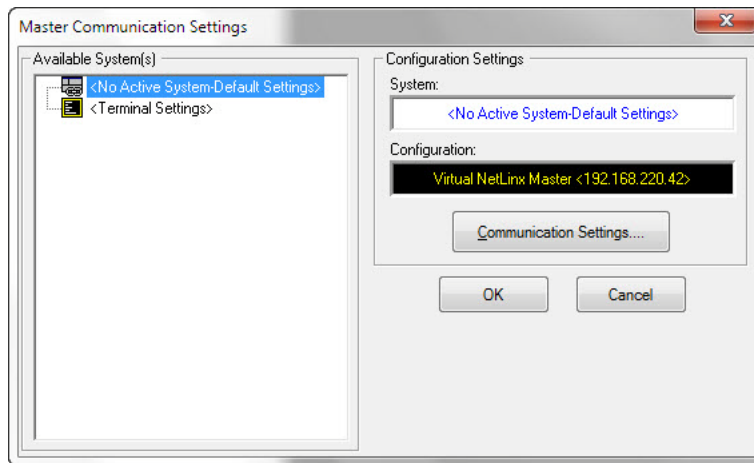

FIG. 27 Master Communications Settings dialog box
1. Launch NetLinx Studio and select **Settings > Master Communication Settings** from the Main menu to open the *Master Communication Settings* dialog (FIG. 27)